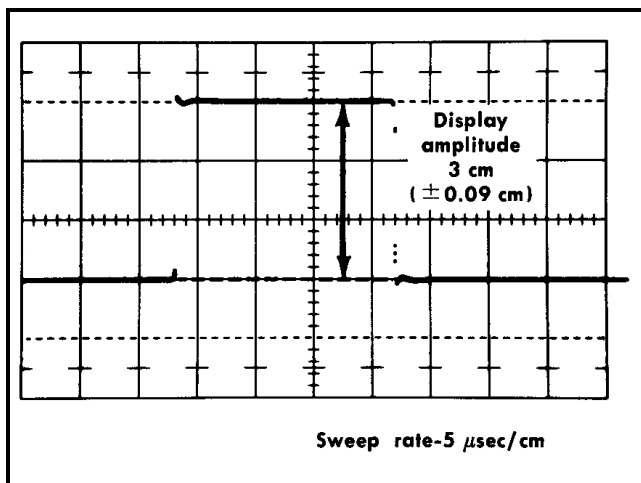

Fig. 5-37. Typical indicator oscilloscope display for checking adjustment of VERT GAIN control.
- Position the waveform with the DC OFFSET control so the baseline is on the graticule line 1 cm below the horizontal centerline (see Fig. 5-37).